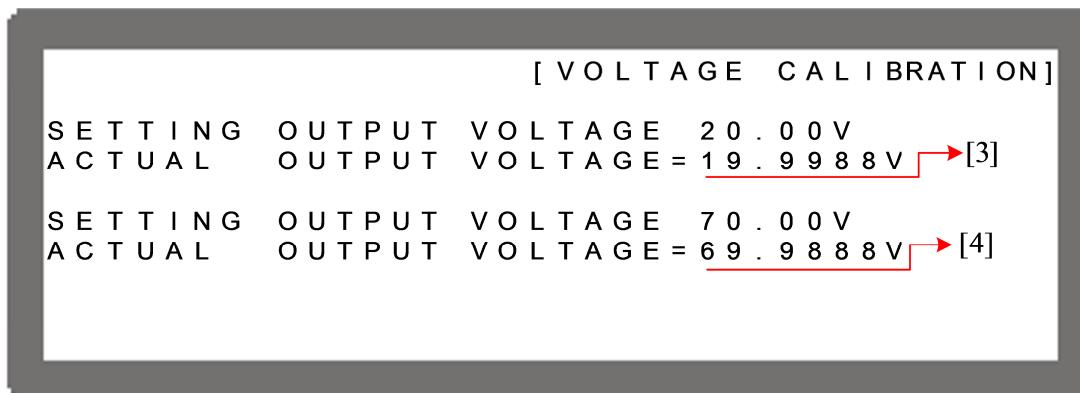

Figure 3-101
7. Press “” to go to the low range of the high voltage range calibration (80V). The instrument will set the output voltage to 20.00V and the cursor will stop at position [3] as shown in Figure 3-101. Enter the voltage measured by the DVM (enter 4 digits after the decimal point) and press “” to confirm.
8. Press “” again to go to the high range of the high voltage range calibration. The instrument will set the output voltage to 70.00V and the cursor will stop at position [4] as shown in Figure 3-101. Enter the voltage measured by the DVM (enter 4 digits after the decimal point) and press “” to confirm.